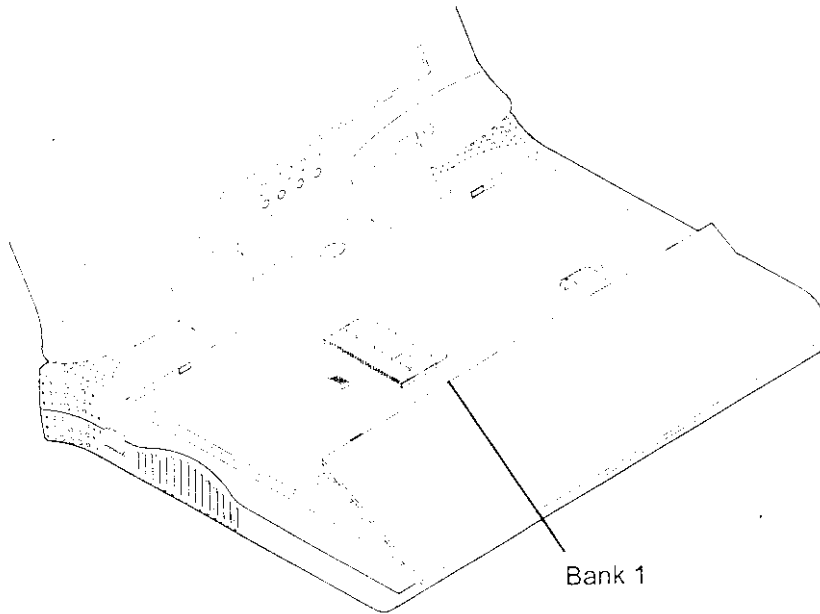

Figure 2-6
3. Carefully lift the keyboard assembly out so that the mainboard is exposed. Locate the memory sockets (Figure 2-6).
3. Carefully lift the keyboard assembly out to expose the mainboard. Locate the memory sockets (Figure 2-6).